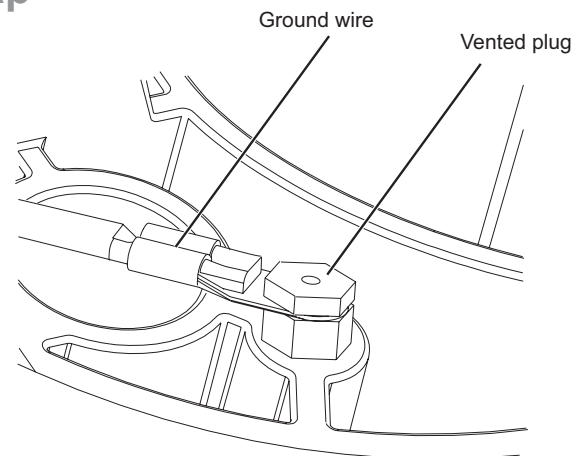

Figure 13
Step 1: Install the vented grounding plug onto the grounding port facing the inside of the closure (Figure 13).
Step 2: Attach the end of the grounding wire to the vented grounding plug using the vented grounding screw (Figure 13).